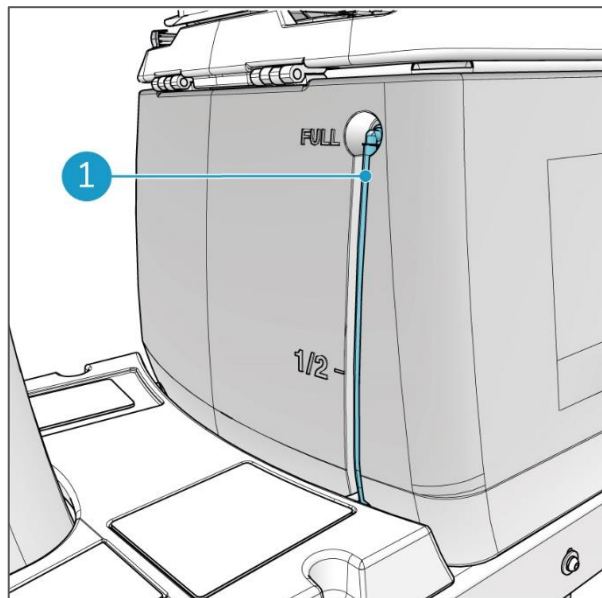

Figure 28
The solution level can be checked visually on the solution level indicator, which is situated on the solution tank (Figure 28, pos 1) underneath the seat. See section 2.2.